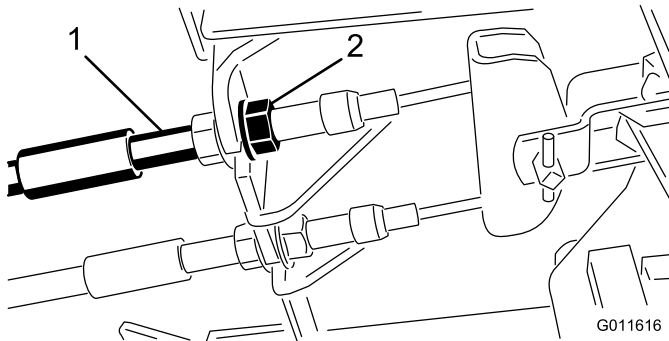

Figure 46
1. To reduce free travel of the brake pedals, tighten the brakes by loosening the front nut on the threaded end of the brake cable (Figure 46).